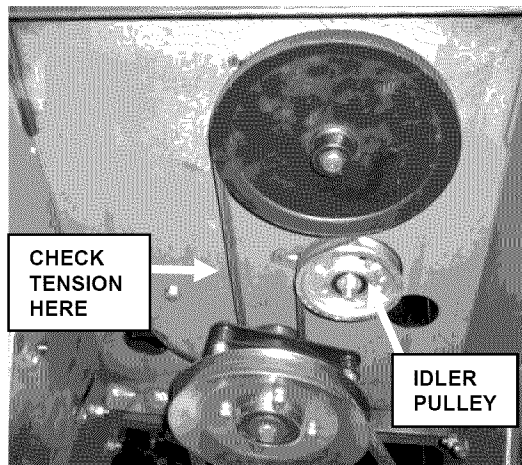

FIGURE 6.11
2. Loosen nut securing Transmission Idler Pulley to adjustment slot in engine base, and slide pulley away from belt. See Figure 6.11.
4. Install new belt, using same pulley routing. See Figure 6.11.